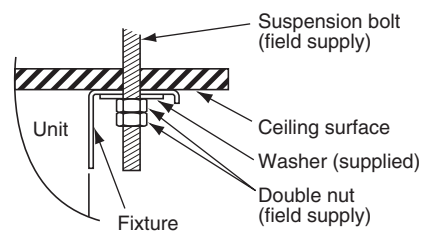
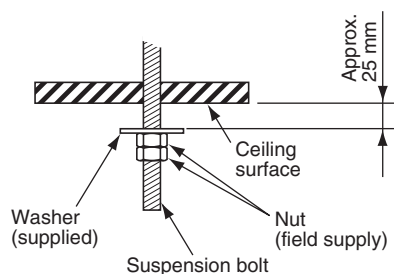

Fig. 3-11
Fig. 3-13
- (6) Carry out the preparation for suspending the indoor unit. The suspension method varies depending on whether there is a suspended ceiling or not. (Figs. 3-11 and 3-12)
- (7) Suspend the indoor unit as follows:
- a) Mount 1 washer and 2 hexagonal nuts on each suspension bolt (Fig. 3-13).